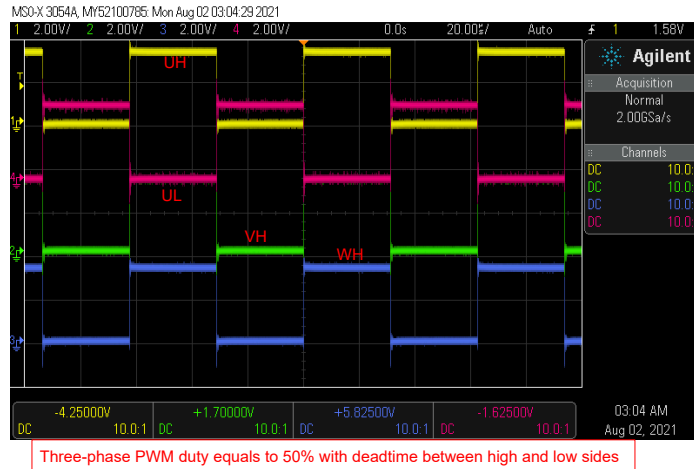

Figure 2-26. Build Level 1: PWM Output Waveforms
7. Probe the PWM output for motor drive control with an oscilloscope. The three PWMs duty are set to 50% in this build level, the PWM output waveforms are as shown in Figure 2-26. The PWM switching frequency will be the same as setting value, *USER_M1_PWM_FREQ_kHz* in *user_mtr1.h*.
The C2000 PWM with deadband outputs to the input of the gate drive as shown in Figure 2-26